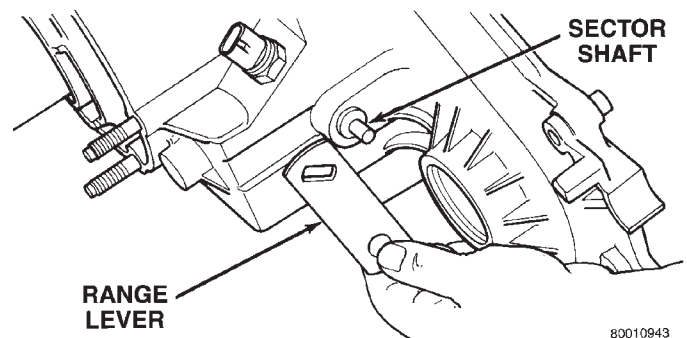

Fig. 21 Range Lever Removal—Typical
- (1) Remove front companion flange nut:
- (2) Remove companion flange. If flange is difficult to remove by hand, remove it with bearing splitter, or with standard two jaw puller. Be sure puller tool is positioned on yoke and not on slinger as slinger will be damaged.
- (3) Remove seal washer from front output shaft. Discard washer as it should not be reused.
- (4) Remove nut and washer that attach range lever to sector shaft. Then move sector to neutral position and remove range lever from shaft (Fig. 21).